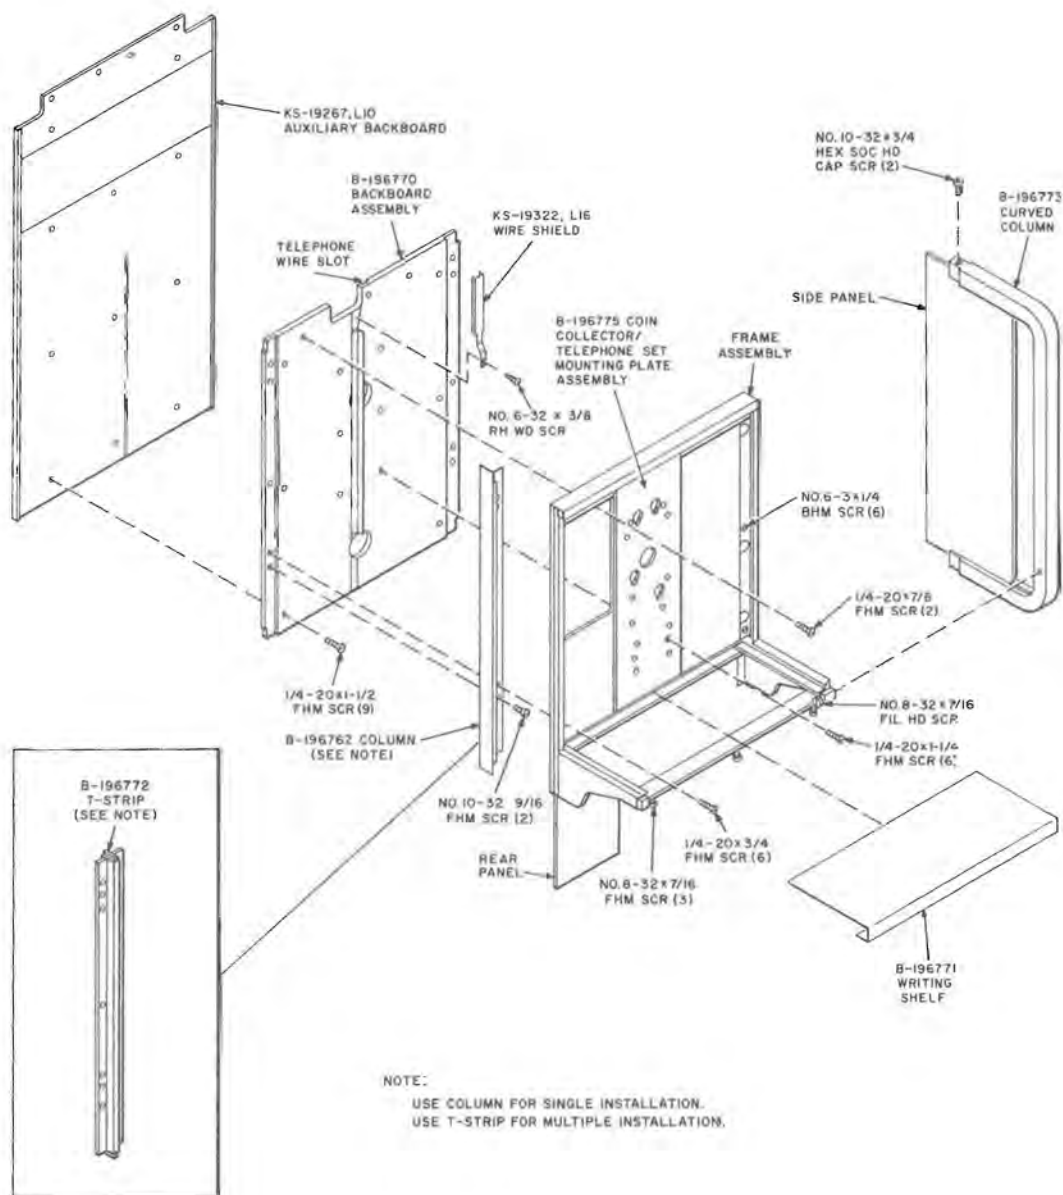

Fig. 7—Assembly of KS-19267 Shelf
3.03 Secure B-196770 backboard assembly to List 10 auxiliary backboard, if applicable, using nine 1/4-20 by 1-1/2 FHM screws (Fig. 7).
3.04 Install KS-19322 sign if applicable and cover exposed electric power cord between sign and shelf with KS-19322, List 16 wire shield (Fig. 7).
Where multiple units are installed, a B-196772 T-strip will be used to join two shelves together. This T-strip will replace the side column. T-strips are furnished as part of KS-19267, List 2 and List 4 shelf assemblies (Fig. 7).
- (b) Remove the following per Fig. 7:
- 4.06 Refer to Fig. 7, 8, and 9 and Tables A and B for replacement parts.